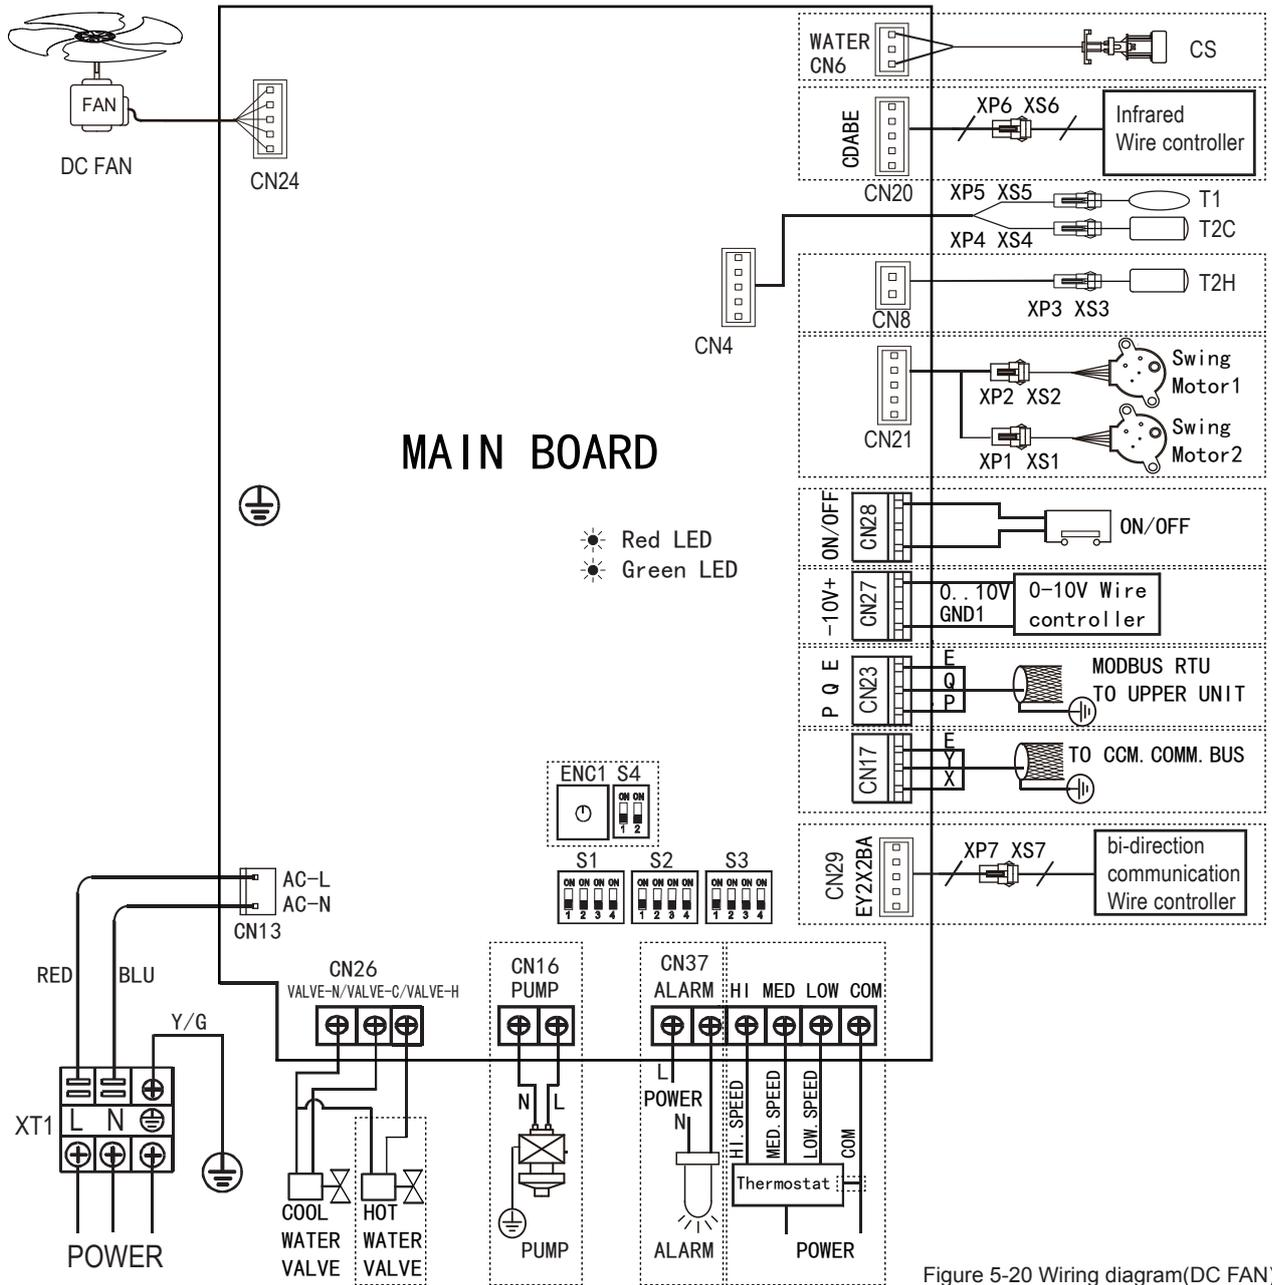

Figure 5-20 Wiring diagram(DC FAN)
- Perform electrical connections according to the wiring nameplate (Figure 5-20) of the unit.